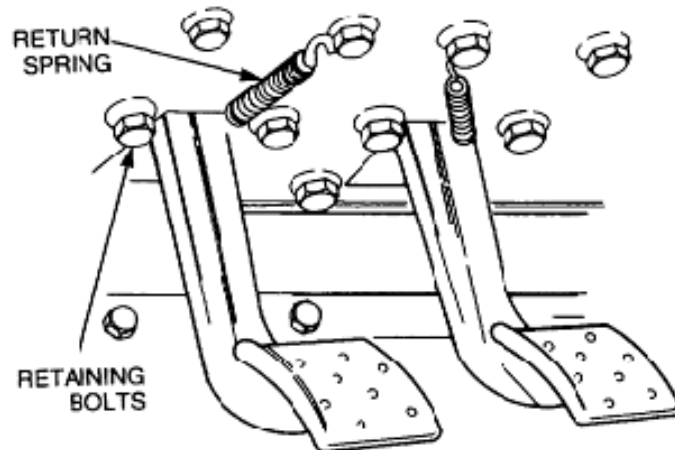

Figure 44 Pedal Bracket and Return Spring Removal
- d. Disconnect the clutch pedal return spring (Figure 44).
- e. Remove the six bolts securing the pedal bracket to the firewall (Figure 44).
- g. Position the pedal and bracket in the vehicle and secure them with the six retaining bolts (Figure 44).